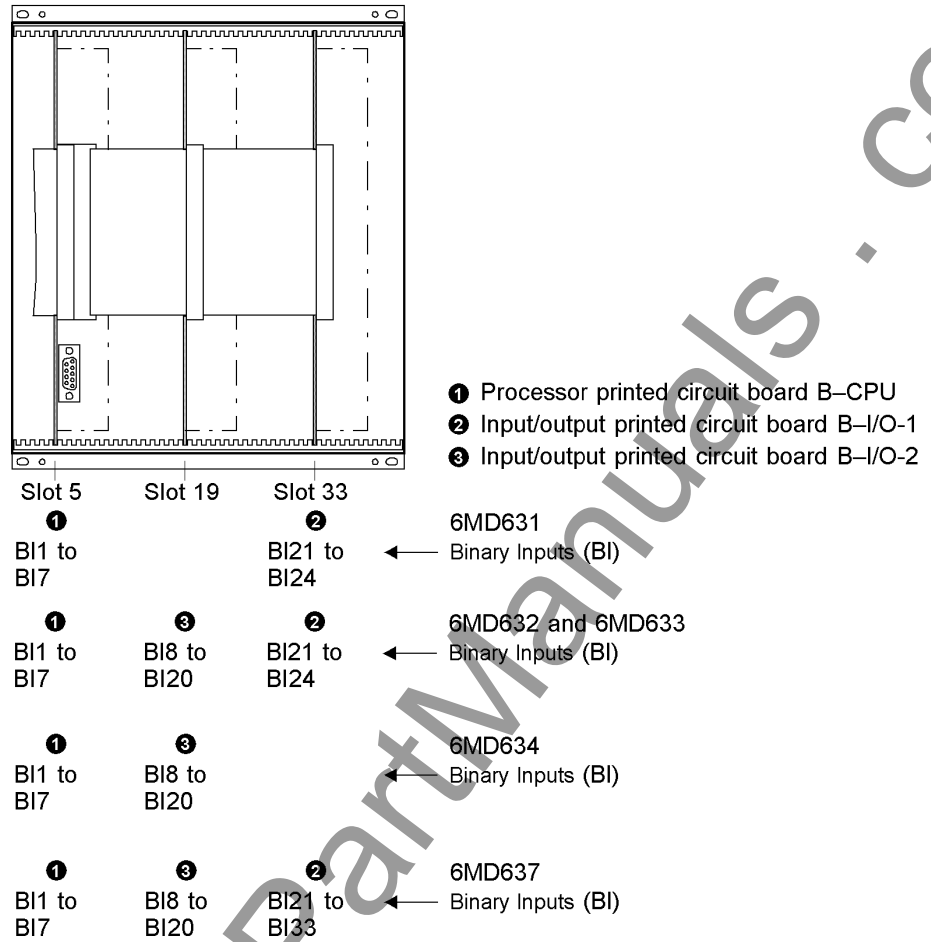

Figure 3-1 Front view of the 6MD63 with housing size $1\frac{1}{2}$ after removal of the front cover (simplified and scaled down)
- Disconnect the ribbon cable between the front cover and the B-CPU board (No. 1 in Figures 3-1 and 3-2) at the front cover side. Press the top latch of the plug connector up and the bottom latch down so that the plug connector of the ribbon cable is pressed out. This action does not apply to the device version with detached operator panel. However, on the central processor unit B-CPU (No. 1) the 7-pole plug connector X16 behind the D-subminiature connector and the plug connector of the ribbon cable (connected to the 68-pole plug connector on the rear side) must be removed.
The arrangement of the boards are shown in Figures 3-1 and 3-2.